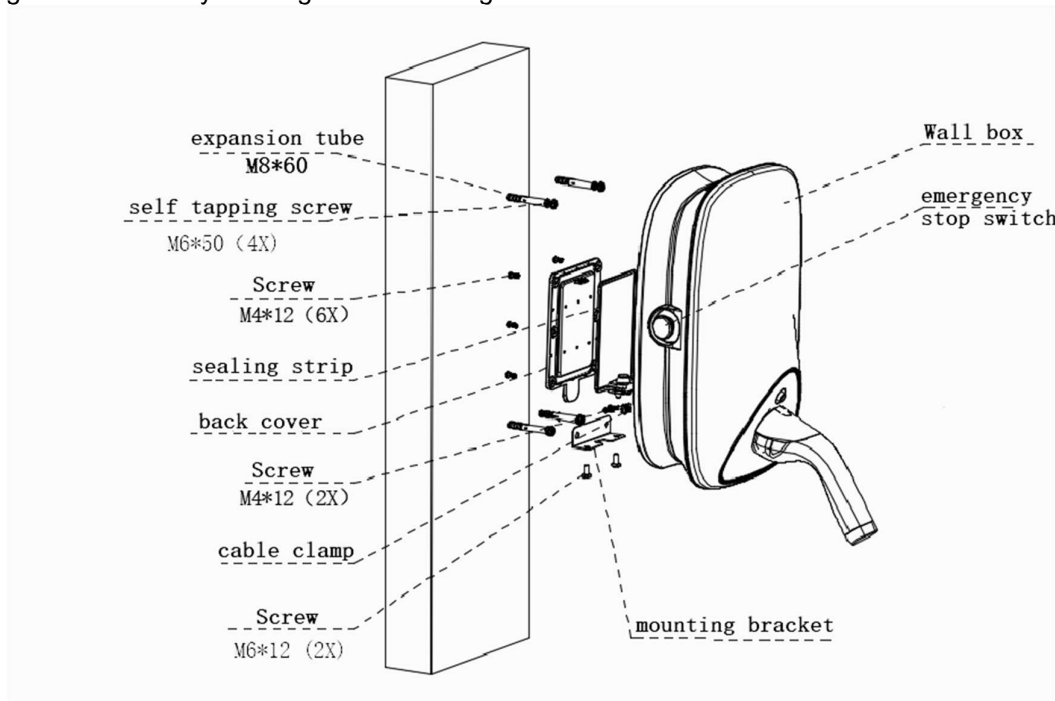

Figure A-9 General assembly drawing of wall-mounted charger
□ The general assembly drawing is shown in Figure A-9.